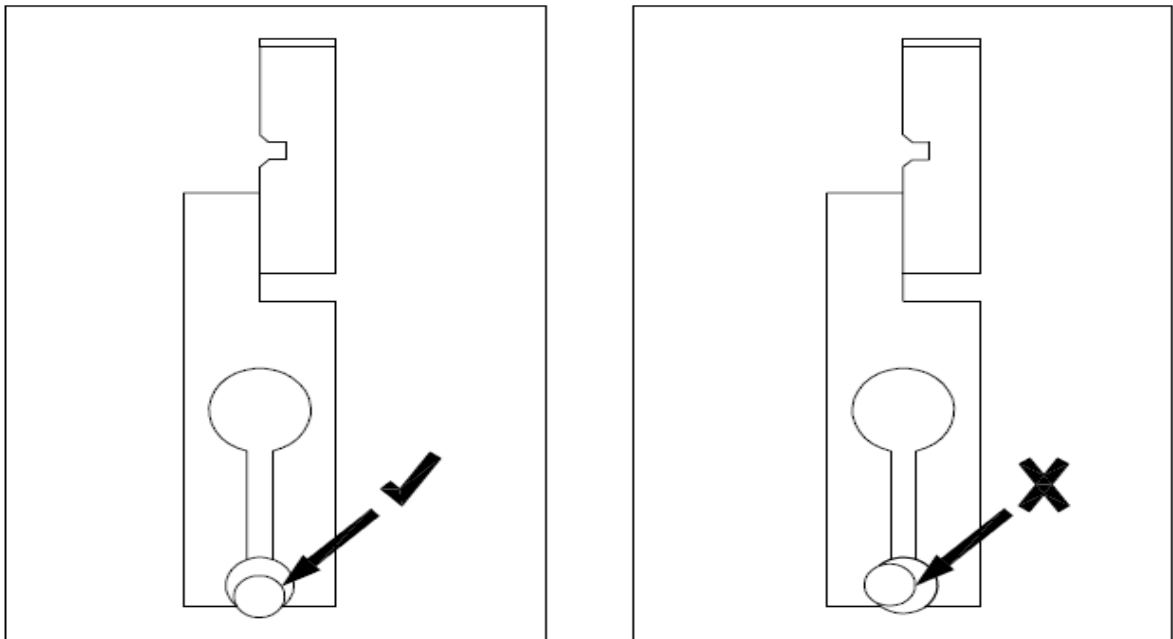

Figure 3
- Position the probe holder assembly along with probe as shown in Figure 3.